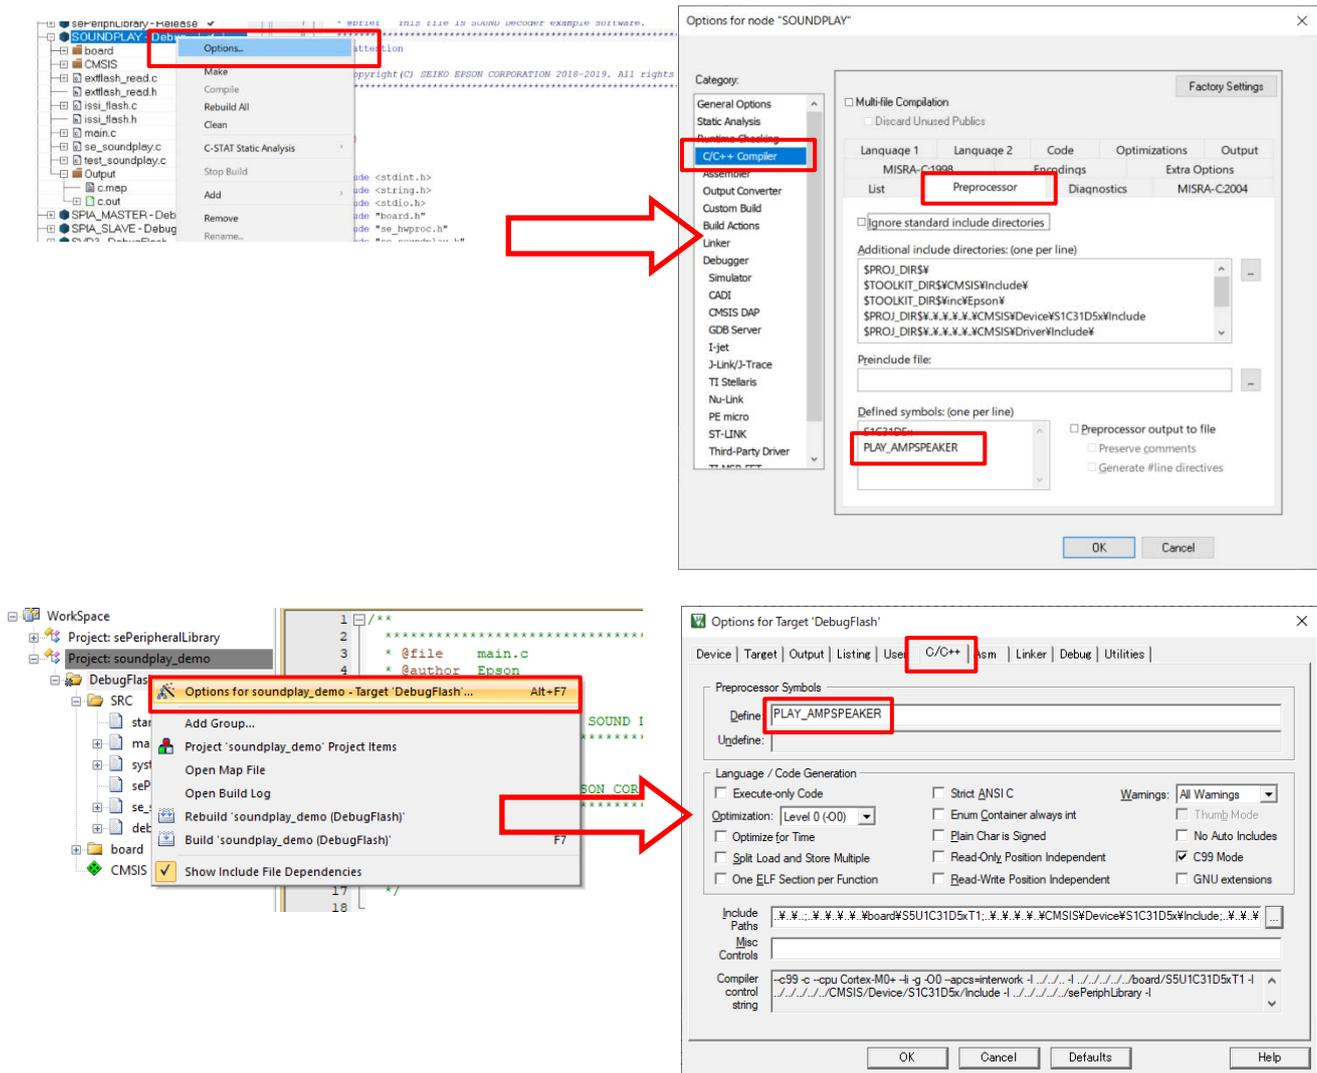

Figure 3.20.1 Symbol Definition (IAR EWARM on Upper figure, Keil MDKARM on Lower figure)
1. Define “PLAY\_AMPSPEAKER” as a symbol definition on SOUNDPLAY project. (See Figure 3.20.1, Table 3.20.1.)
2. Connect the speaker output connector and the speaker via the speaker cable included with the evaluation board. (see Figure 3.20.1.)
1. Define “PLAY\_ELBUZZER” as a symbol definition on SOUNDPLAY project. (see Figure 3.20.1.)
1. Define "PLAY\_PIBUZZER" as a symbol definition on SOUNDPLAY project. (see Figure 3.20.1.)